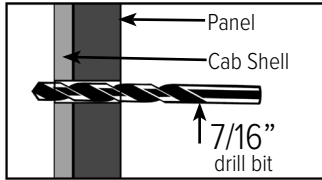

Figure 4.1.1
4.1.1 Drill a 7/16" hole in the cab shell at each panel hole location as shown in Figure 4.1.1.